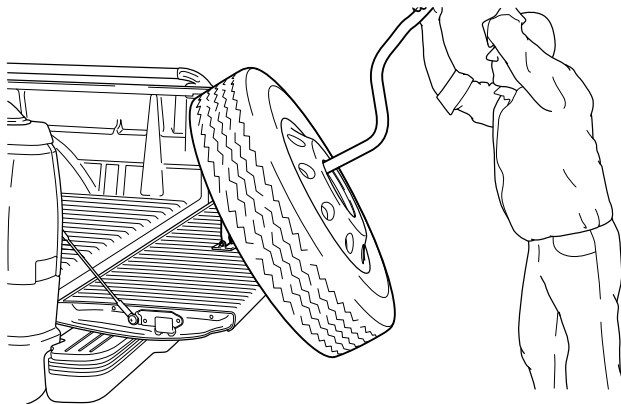

Figure 7
3. Place both hands on the grip end of the tool, and slowly lower the handle of the tool. Let the wheel slide down the tool until it is stable on the ground. See Figure 7.